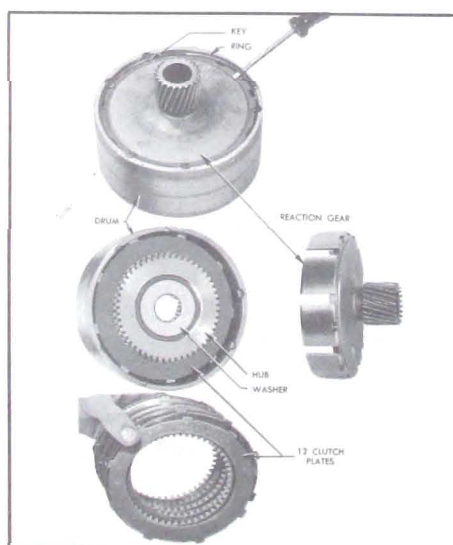

Figure 5-87—Removal of Reaction Gear, Hub, & Plates
1. Remove reaction gear flange retainer ring with screwdriver and remove the 6 flange driving keys with pointed tool. See Figure 5-87.
2. Remove the low range reaction gear, thrust washer, clutch hub, and 12 clutch plates from drum. See Figure 5-87.